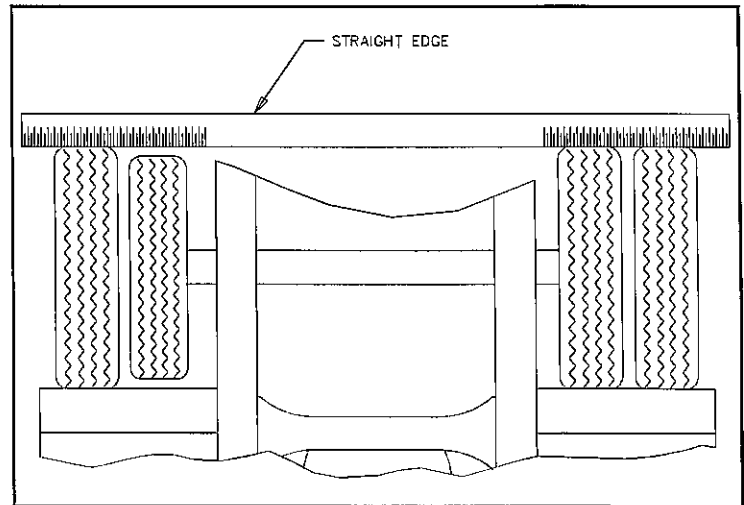

Fig. 4-18 Straight Edge Method
**b. Straight Edge or String Method:** (This method cannot be used if tire and wheel assemblies are not mounted on the axle.) Jack semitrailer up until the wheels are off of the ground. Hold a straight edge against the tires of both ends of an axle. A gap at one tire indicates a smaller tire. A maximum of 1/8" gap is allowed (See **Figure 4-18**).